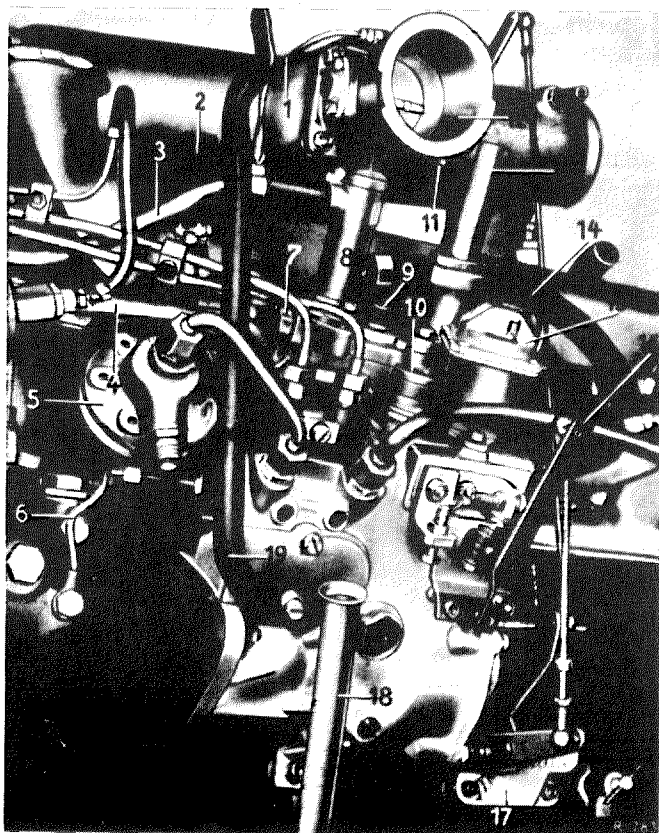

Fig. 01-4/11 a
1. Remove air filter. For this purpose loosen vent line to cylinder head, supplementary air line (2), the connection to the venturi control unit and the fixing screw on supporting rod (19) (Fig. 01-4/11 a).